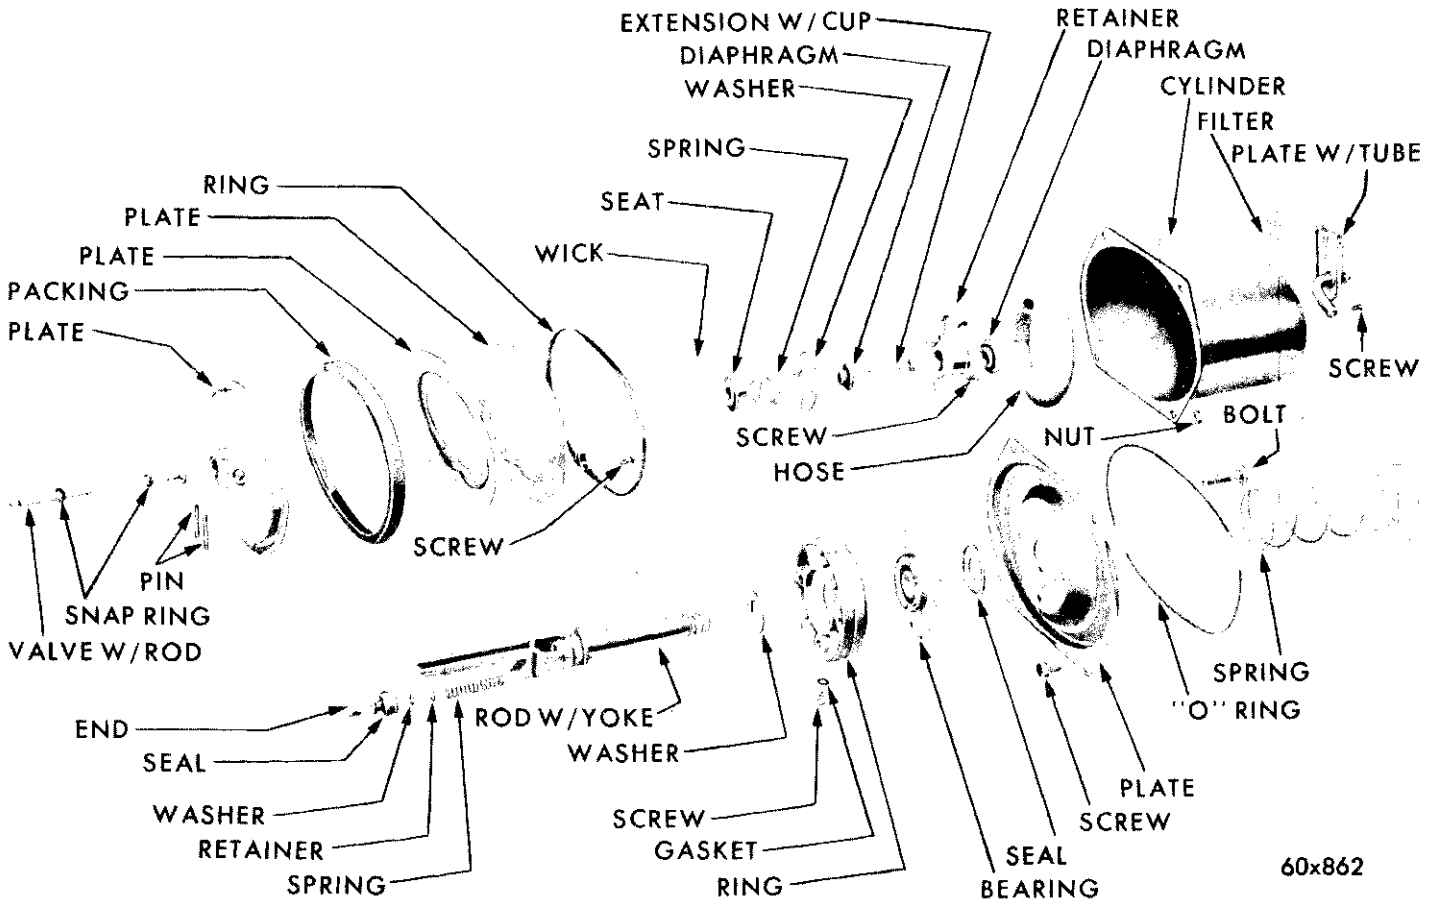

Fig. 46—Power Brake Assembly (Exploded View)
(6) Remove the master cylinder.
(7) Remove the bolts that attach the power unit mounting bracket to the fire wall. Slide the unit and the bracket straight out from the fire wall and out of the engine compartment. Remove the power unit from the mounting bracket.
a. Power Brake Disassembly (Fig. 46)
c. Power Brake Assembly (Fig. 46)